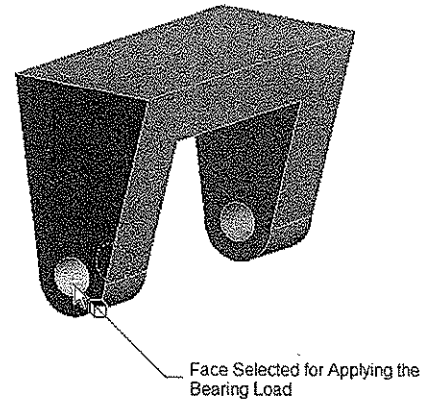

Figure 9-69 Face selected for applying the Bearing Load
12. In the Graphics screen, select the cylindrical face of the model, as shown in Figure 9-69.